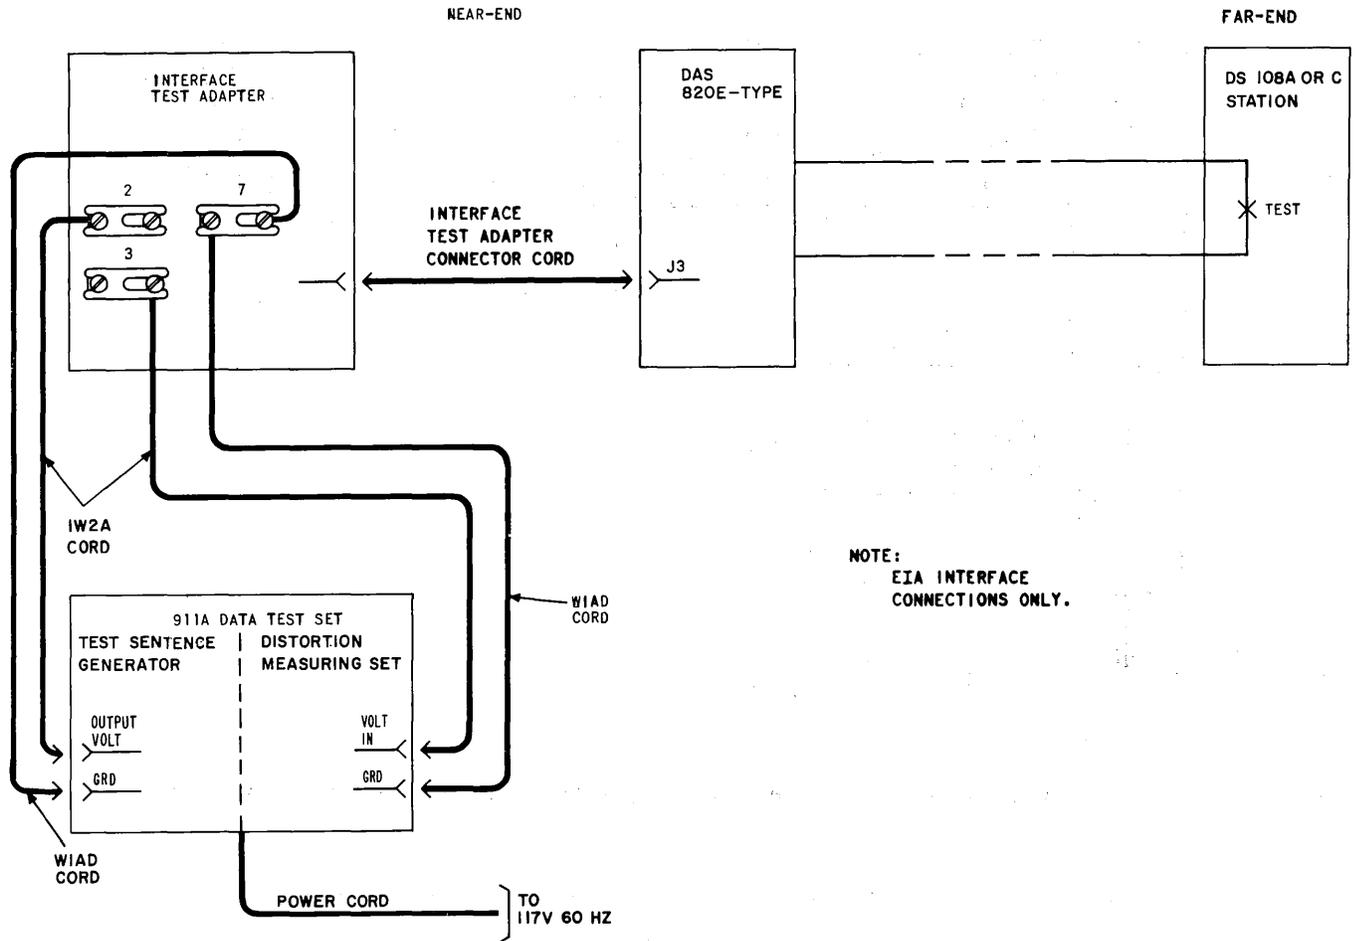

Fig. 1—Distortion Test Arrangement Using 911A Data Test Set—EIA Interface
2.05 Figures 1 and 2 show the equipment set up at the terminal for testing both directions of transmission when the station is equipped with EIA interface or current interface, respectively. This test checks the transmitter and receiver of both data sets at the near and far end and the two directions of transmission of the connecting facilities.
2a	If EIA interface— Make connections as shown in Fig. 1.